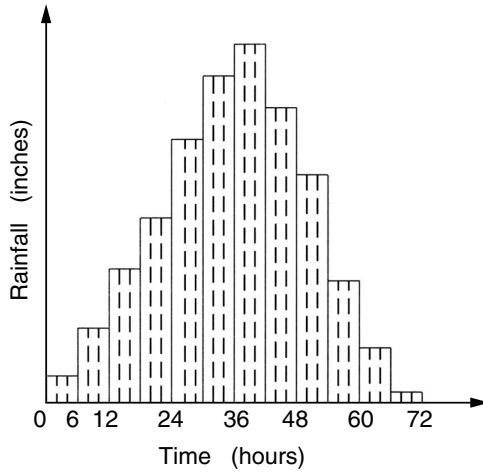

FIGURE H-5 Hyetograph.
**Hyetograph** (From the Greek *hyetos*, meaning rain.) A graphical representation of rainfall intensity, rainfall excess, or rainfall volume over an area versus time. *See* Figure H-5.